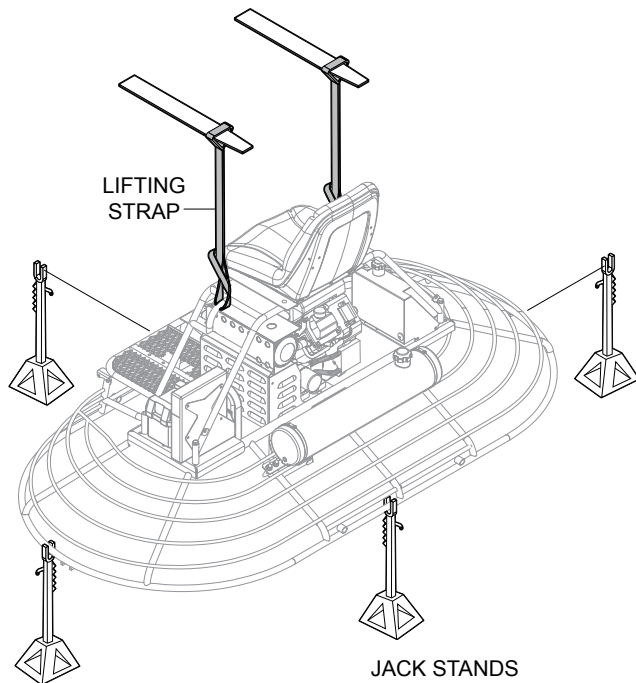

Figure 2. Lifting the Trowel
1. Send a lifting strap or chain through the lift points on each side of the trowel. Attach the ends of the lifting straps or chains to the lifting device (Figure 2).